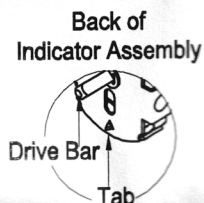

Figure 2
4. **NOTE:** Drill a 5/32" (4mm) hole on indicator side of door to accommodate the alignment tab when used on metal, laminate or hard wood doors. Indicator **MUST** lay flat on door (See Figure 2). With indicator assembly in position, fasten with mounting screw.